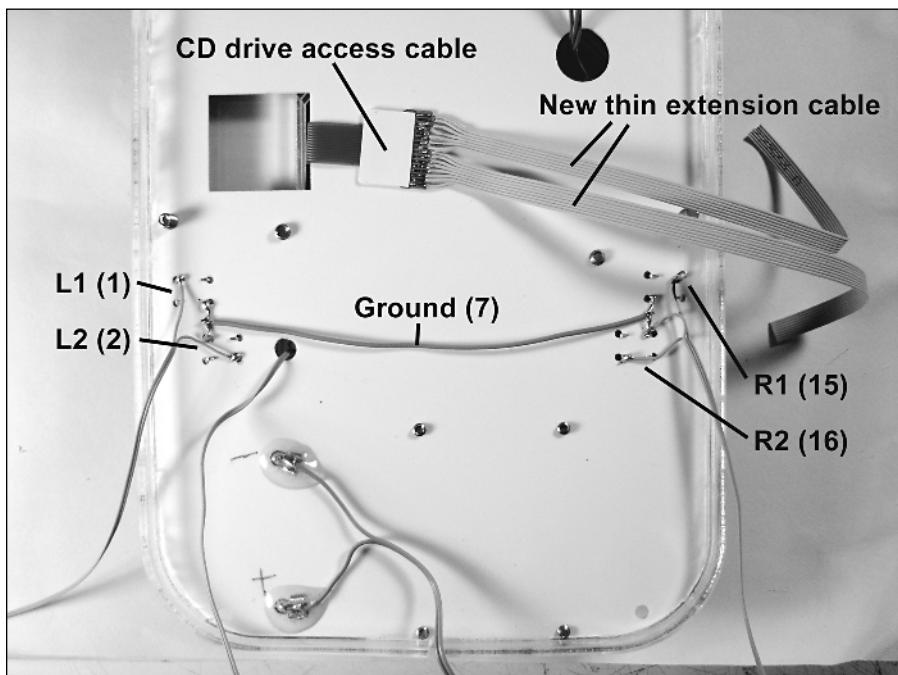

FIGURE 14-18: The wires for the shoulder buttons and the CD drive access cable as well.
4. A total of five wires should come from the shoulder buttons, including *GROUND*, which I included in the R1/R2 wire strand in Figure 14-18. Make a mark on the wires so that you know which is L1/R1 and which is L2/R2 later on.
2. Use a dab of hot glue to secure the original CD drive access cable flat against the rear plate. Angle it down slightly, as seen in Figure 14-18.